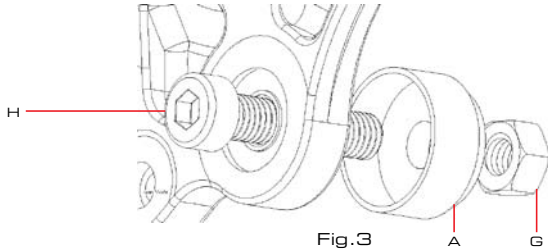

Fig.3
1. Place the links flat on your bench and assemble the bearing removal tools as shown in fig. 3. Use an Allen wrench and open wrench to draw the bearings out of the links. Repeat this process for the lower link bearings, chain stay yoke bearings and seat stay bearings (Use tool "B" in place of tool "A" for the smaller Seat Stay Yoke bearings) as needed.